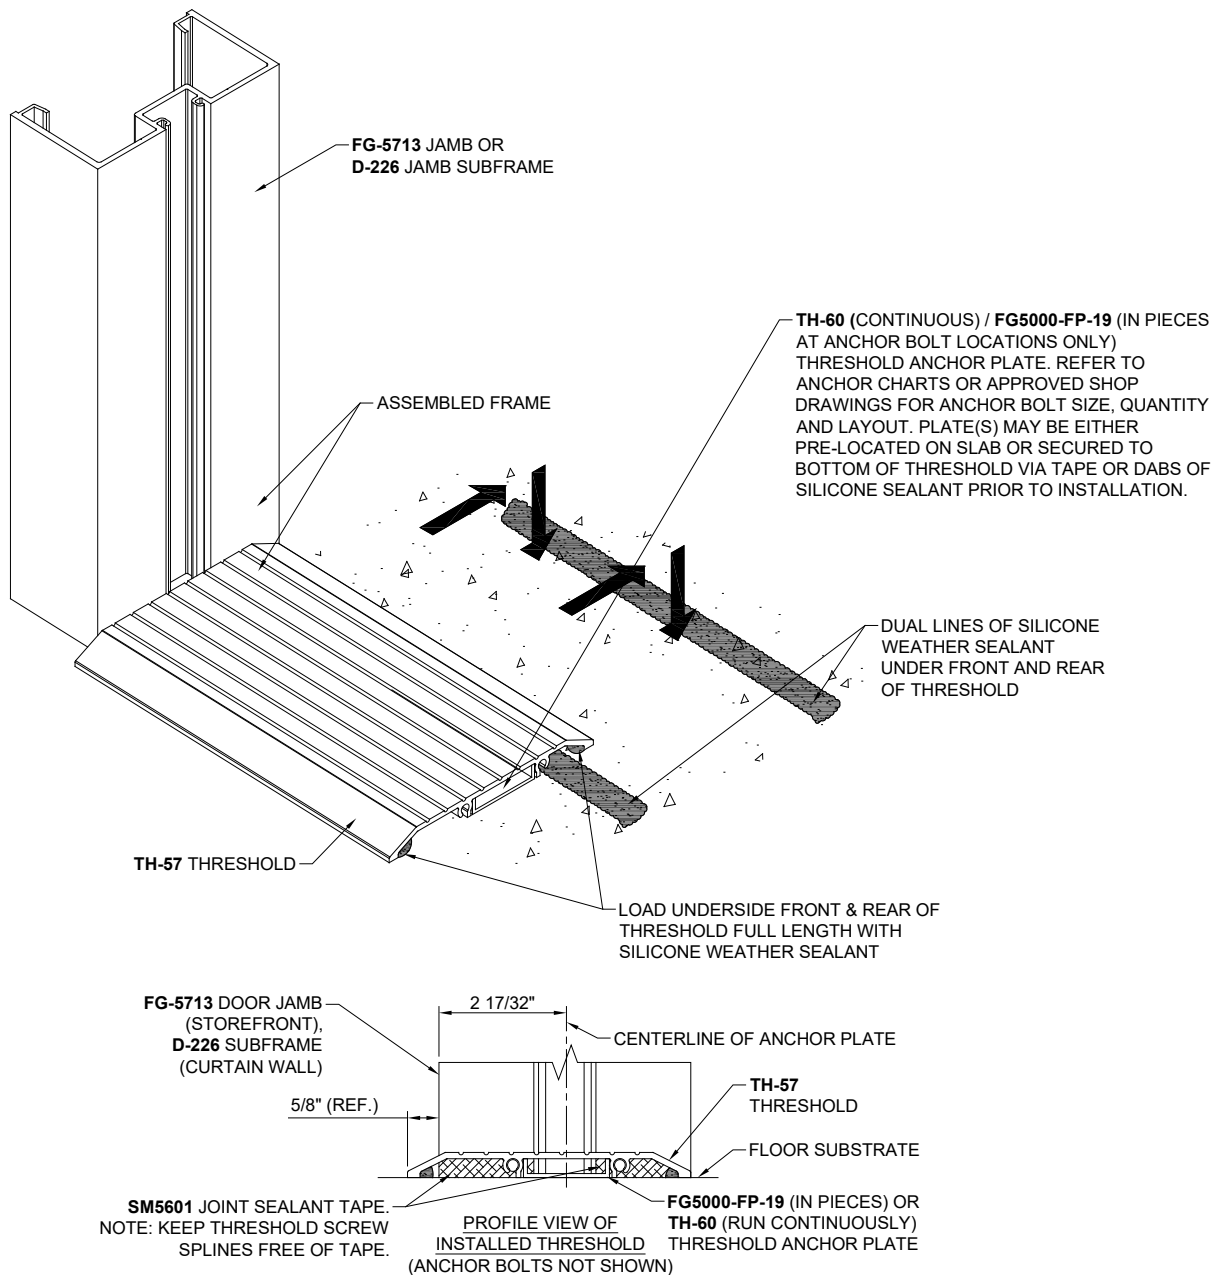

Figure 24: Subframe Installation
9.3 The Threshold Anchor Plate may be used in pieces at anchor bolt locations only (as **FG5000-FP-19**), or it may be used continuously (as extrusion **TH-60**). The Plate, whether continuous or in pieces, does not attach to the floor substrate. The Anchor Plate is used to ensure anchor bolts do not bend under load. Plate(s) should be drilled for a clear hole at each anchor bolt location. The Plate(s) may be either pre-located on the floor substrate or taped in place or secured via silicone sealant to underside of Threshold to facilitate installation. If pre-located on floor substrate, the centerline of the Plate will be set back 2-17/32" from leading edge of Jamb Subframe. Reference Figure 24. Anchor bolt size, quantities, and layout to be determined via structural review. Refer to approved shop drawings.
- 9.7 Install assembled frame. Reference Figure 24.